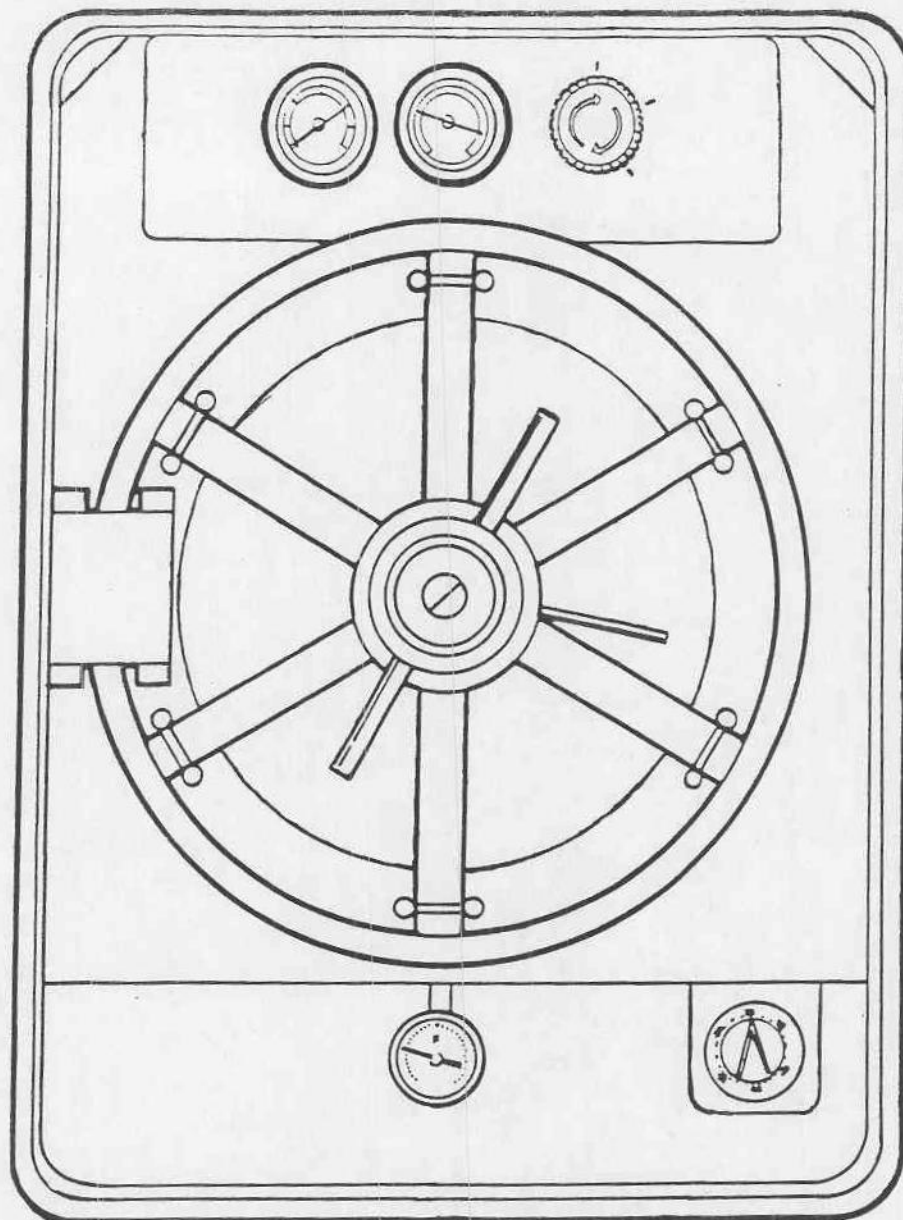

Figure 1-1. Sterilizer.
a. *Type of manual.* Unit, direct support (DS), and general support (GS) maintenance (including repair parts and special tools list).
b. *Model numbers and equipment name.* M-138 and FS 1986, Sterilizer, Surgical Instrument and Dressing with Gasoline Burner and Pump (fig 1-1).